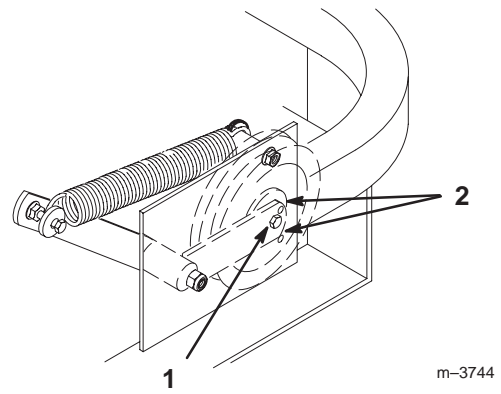

Figure 63
8. Check the belt tension. The center bolt of the spring loaded idler must be between the two alignment holes in the left support plate (Fig. 63).
10. Check the belt tension again. The center bolt of the spring loaded idler must be between the two alignment holes in the left support plate (Fig. 63). Adjust it, if necessary, and tighten all hardware securely.